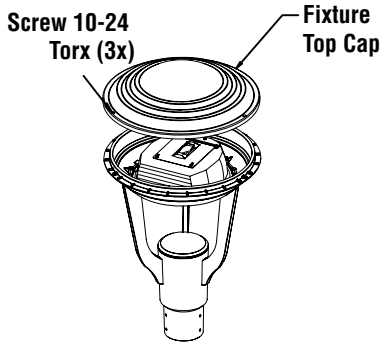

Fig. 6
1. TO RELAMP FIXTURE REMOVE FIXTURE TOP CAP (SEE FIG. 6).